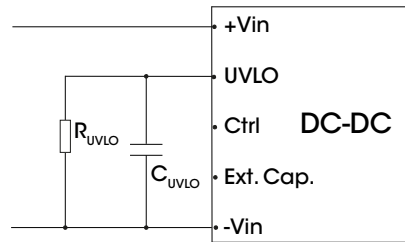

Figure 13. Recommended circuit for undervoltage-lockout adjustment
3. The UVLO pin can adjust the point of input under-voltage protection by the external resistance R_{UVLO}, for the value of R_{UVLO}, please refer to Fig. 13. If the pin is open circuit, the point of input under-voltage protection is 11 V.
3. The resistance R_{UVLO} sets the undervoltage protection point, for the value of R_{UVLO} , please refer to Fig. 13.